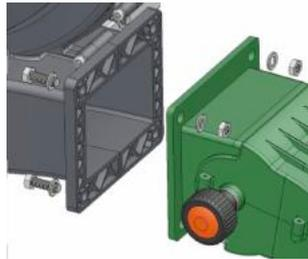

FIGURE 7
2. Secure the diffuser (or other accessory) to the outlet section using n°4 M6 hex head bolts UNI EN 24017, n°4 M6 nuts UNI EN 24032, n°8 Ø6 washers UNI 6592 (bolts supplied with the diffusers). Tighten to a max. torque of 8Nm (FIGURE 7);